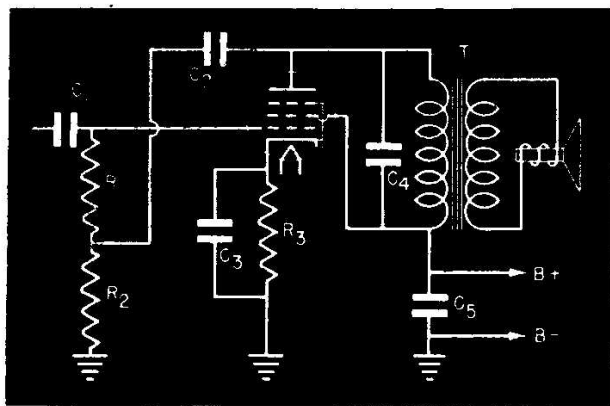

FIG. 12. One method of introducing inverse feedback. The feedback path consists of  $C_2$  and  $R_2$ .
**Inverse Feedback.** Any of the forms of inverse feedback that you studied in your fundamental Lessons may be found in public address systems. The feedback may just be across the output stage—from the plate to the grid circuit, for example—or it may be over a loop of several stages. We'll see some typical diagrams later, in addition to the examples given in Figs. 12 and 13. To